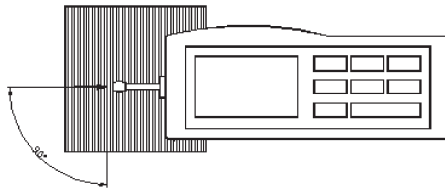

Figure 2-3 Measuring direction
- d. Refer to Figure 2-3, trace of the pickup must be vertical to the direction of process line of the measured surface.